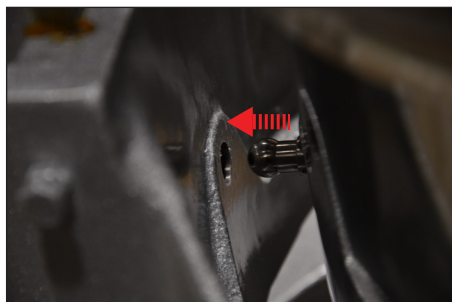

Fig.1
1. Place the bowl on the two arms to keep it in place. Insert the bowl pin into pin support located on frame. Carefully align holes on the bowl with the studs on the bowl arms. (Fig.1)